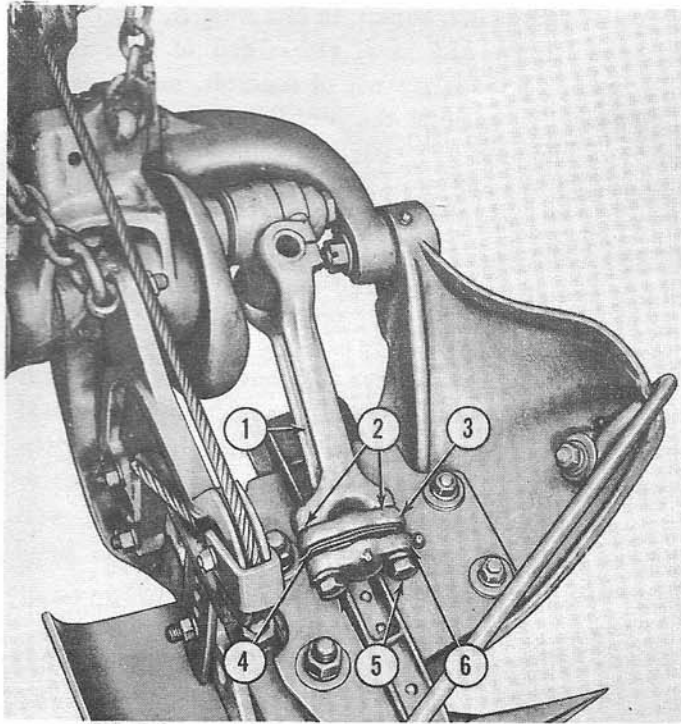

Figure 6
the knife guards as shown in Diagram A, Figure 5, when the Pitman arm is at either end of its stroke. If the knife sections are out of register, see Diagram B, Figure 5, correct the condition by adding or removing washers (2), Figure 6, from between the Pitman yoke (1) and the socket (3).
Pitman Rod Socket Joints: To compensate for wear on the knife head ball, adjust by removing the metal shims (4), Figure 6, from between the halves of the socket joint. This joint must be checked and carefully adjusted periodically. If too tight, it will quickly overheat and tend to lift the knife head vertically. If too loose, breakage may result.